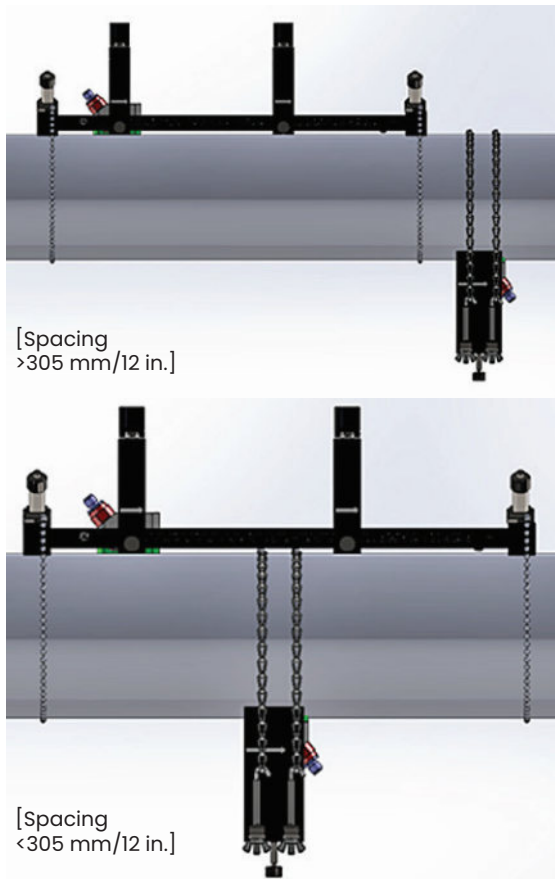

Figure 33: Completed odd-traverse installation (top view)
9. Tighten the yoke screw until the transducer firmly contacts the pipe. Your completed odd-traverse installation should look like *Figure 33* below.